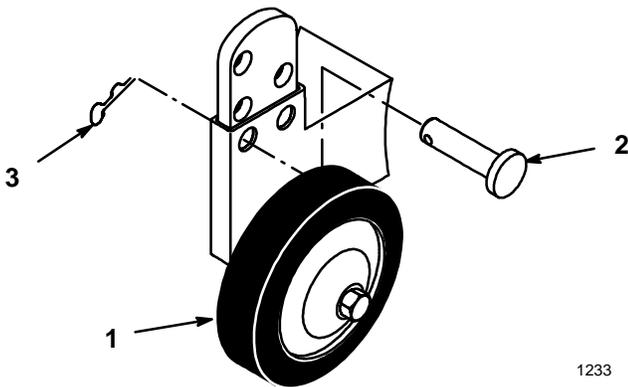

Figure 28
2. To adjust wheel height off the ground, remove the hairpin cotter and pin to change hole location (Fig. 28).
3. Select a hole position so the wheel is $3/8$ " (9.5 mm) off the ground for the height-of-cut position to be used (Fig. 28).